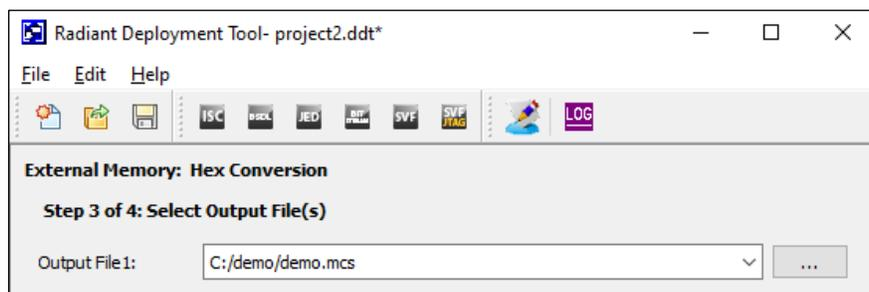

Figure 6.11. Output File Selection
- 9. Specify the Output File name and click **Next** to proceed. See Figure 6.11.